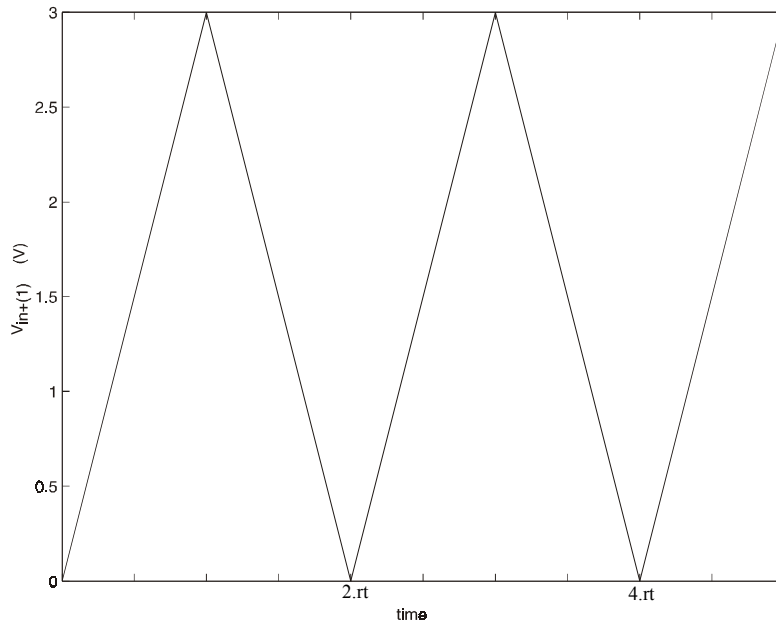

Figure 3.84 : The variation of DCELL terminals  $V_{IN+(1)}$
- b) The variation of DCELL terminal  $V_{IN+(1)}$  can be seen in Figure 3.84
In Figure 3.84  $rt$  represents the refresh time.